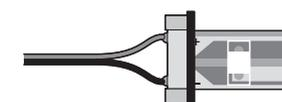

Figure 3
3. Connect the supply connector to the end of the LED board (observe polarity) and close the fastener (Fig. 3).